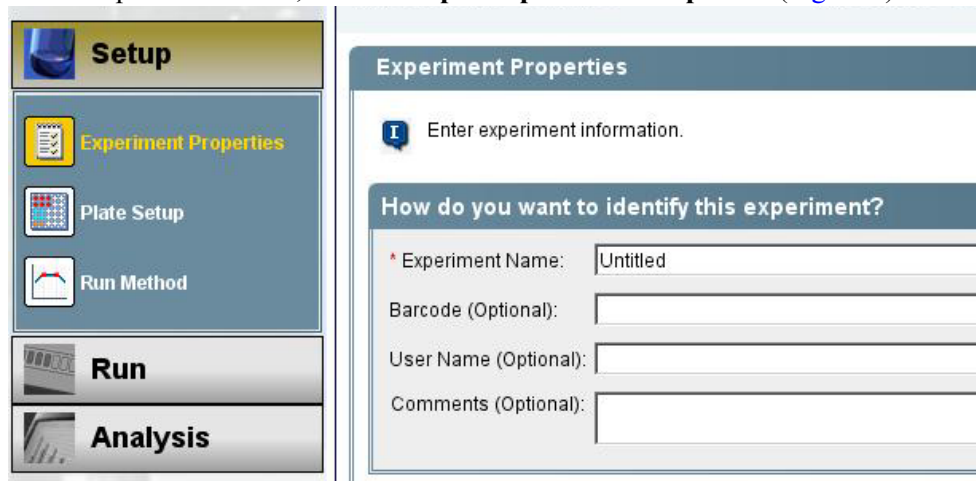

Figure 5 Experiment Properties
1. In the Experiment Menu, select **Setup ▶ Experiment Properties** (Figure 5).